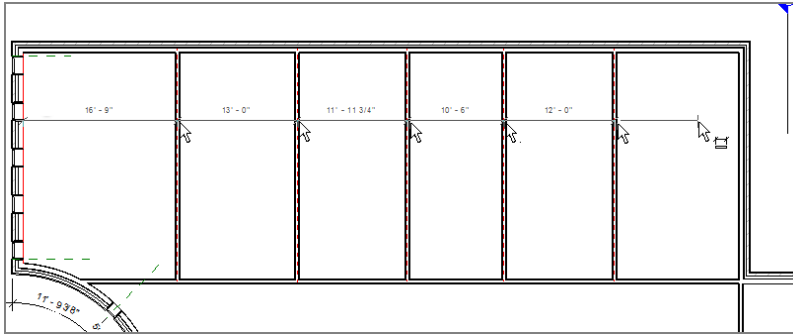

FIGURE 5.28: Adding a string of dimensions to the interior walls
11. Move your cursor to the right until you pass over the first interior wall. Notice that the core centerline of the interior is highlighted, as shown in Figure 5.28. When you see this, pick the wall.
13. Repeat the procedure until you get to the last wall (see Figure 5.28).